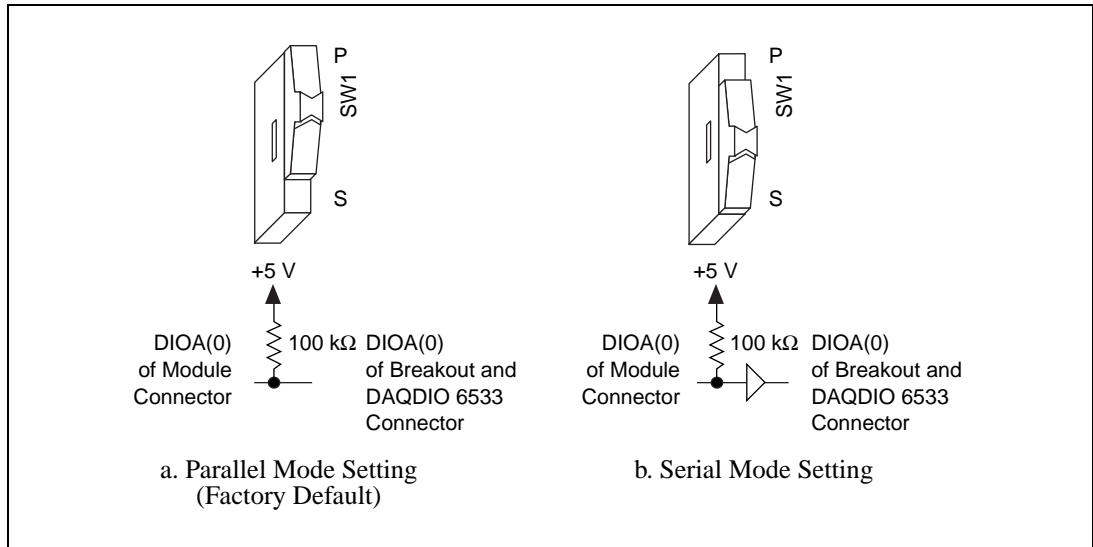

Figure 2. SCXI-1355 Adapter Board Switch SW1 Settings
3. Set the adapter board switch for parallel mode (P) or serial mode (S). See Figure 2, which also shows the circuit on the DIOA(0) line, for each switch setting.